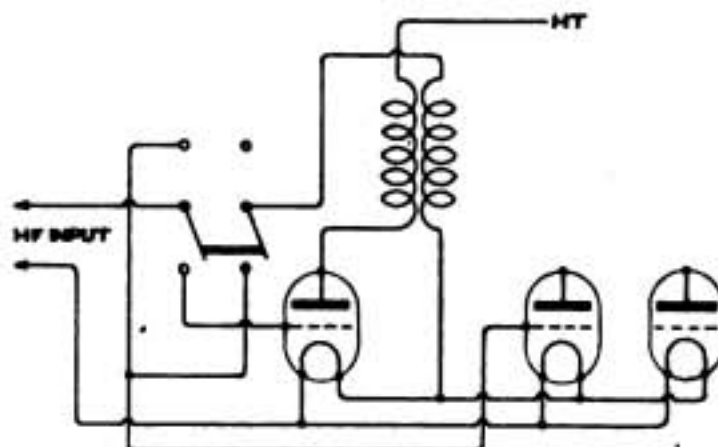

Fig. 1.
(1) It is better to go straight to the reaction coil from the valve. (2) The use of a grid condenser and leak gives a somewhat more sensitive detector, but is liable to be a little more tricky in operation. Transformer amplification is the better for short waves, but is not adaptable to big ranges of wavelength without interchangeable transformers. (3) See diagram Fig. 1. (4) With regard to 2 KW, see list of amateur transmitting stations published in our issue of July 1st. We have no knowledge of the other two stations mentioned.
(1) and (2) Seeing that the Birmingham and Manchester Stations will be so much nearer to you and will give services almost identical with London, you will be well advised to try for them alone first, as really good results at 150 miles will need a good set skilfully used. For Birmingham and Manchester a single valve set will do. If you know nothing about the subject we should advise buying the complete set or else getting a textbook and studying the whole subject before making your own set. It is impossible in any case to state minimum apparatus required as the nature and locality will affect it as well as the quality of the results required. (3) One of many possible circuits is shown in Fig. 1, page 243, May 20th. (4) Yes, but the cost of the licence will be considerably more than for a special broadcast receiver of a type approved for the purpose by the G.P.O.